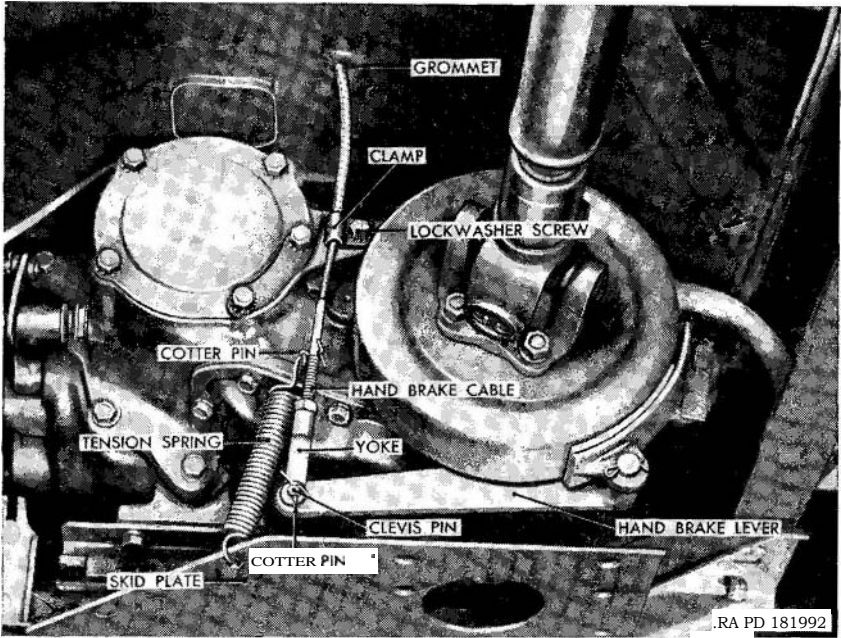

Figure 26.8. (Added) Disconnect points under body 111170.
*(5) Make disconnects under body.*
- (a) Remove the tension spring (fig. 26.8) from the skid plate and the cotter pin through the hand brake cable.